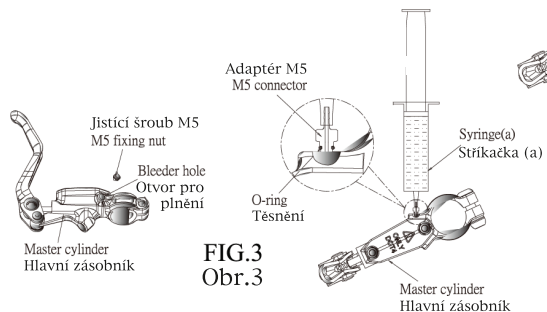

FIG. 3
- Fill up the designated syringe (A) for master cylinder on M5 connector the braking fluid in 90% full (about 25 ml). As shown on fig. 3.